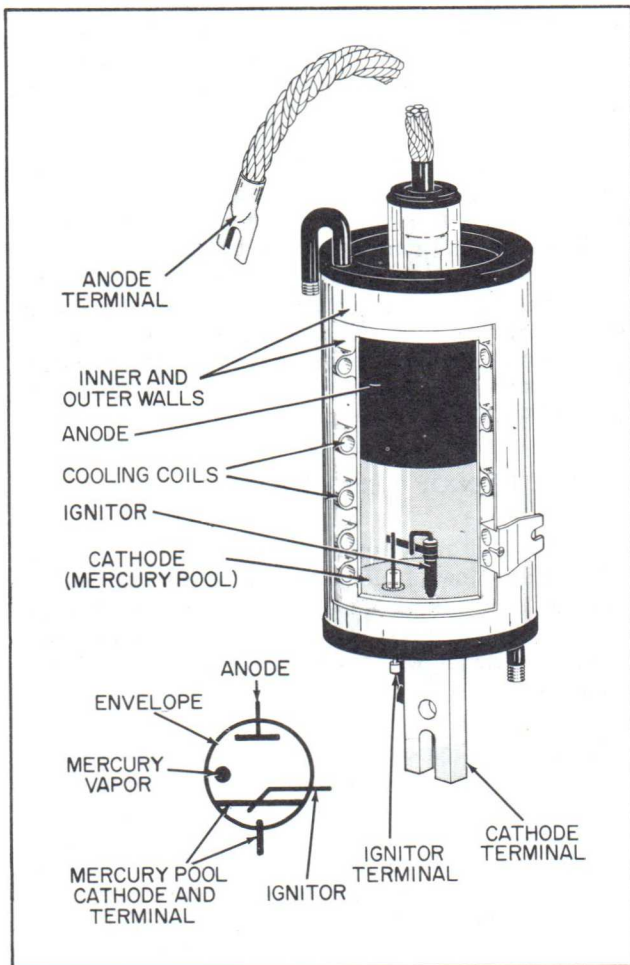

Figure 1. Ignitron Elements and Graphic Representation
a. **DEFINITION AND DESCRIPTION.** The ignitron is a gas-discharge electronic tube with a mercury pool cathode and an ignitor starting electrode. There are five basic parts in an ignitron, namely: The cathode, anode, ignitor, terminals, and envelope. A typical ignitron is illustrated in figure 1. The basic elements and their properties are discussed in subparagraphs b through f following.
(1) The flow of electrons in a wire can be compared to the flow of water through a pipe. The cur-